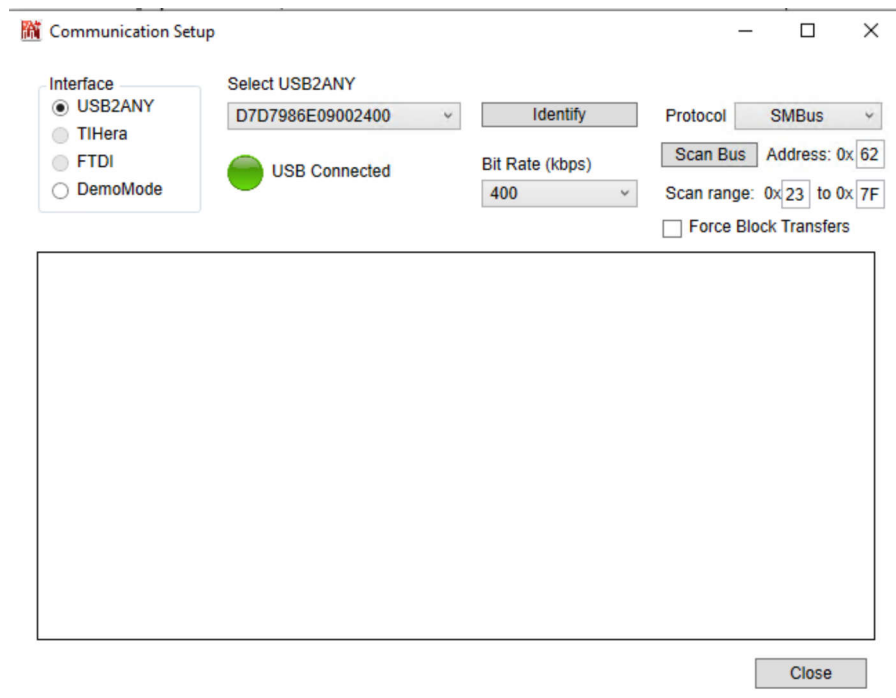

Figure 2-2. Communication Setup
- d. Confirm all the fields match the ones shown in Figure 2-2.